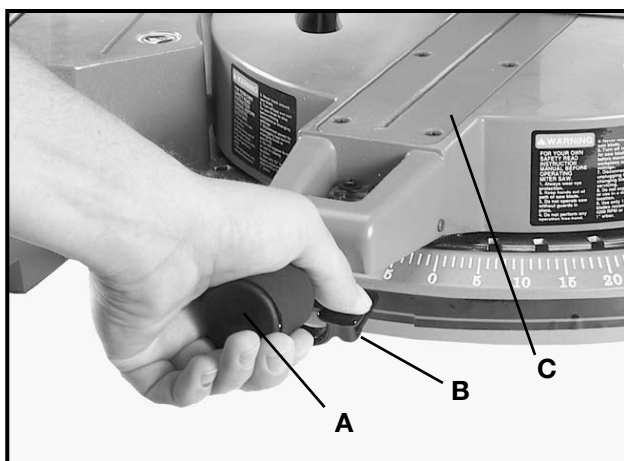

Fig. 6
1. Rotate locking knob (A) Fig. 6 counter-clockwise as far as it will go. Depress lever (B) and rotate table (C) to the 0 degree straight cut-off position, release lever (B), and tighten locking knob (A).